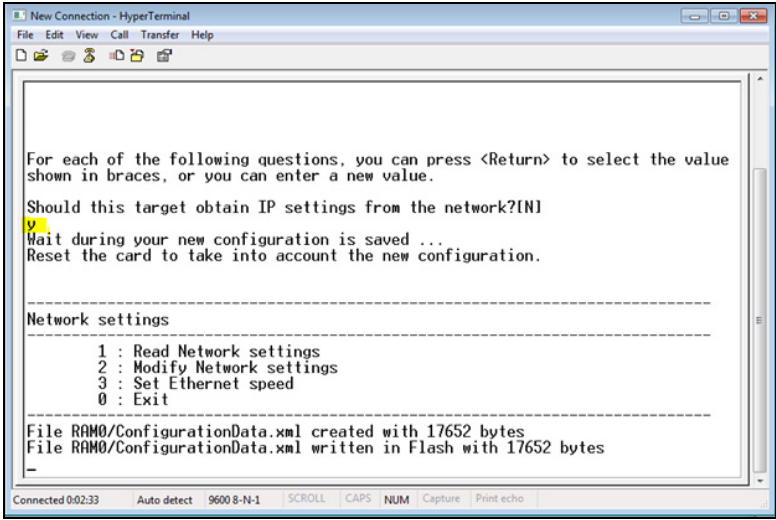

Figure 5. Select Yes for DHCP
- 2. Type **1** for Read Network Settings. At the cursor prompt, enter **Y** for “yes,” in order to use DHCP to obtain an IP address from the network (see Figure 5).